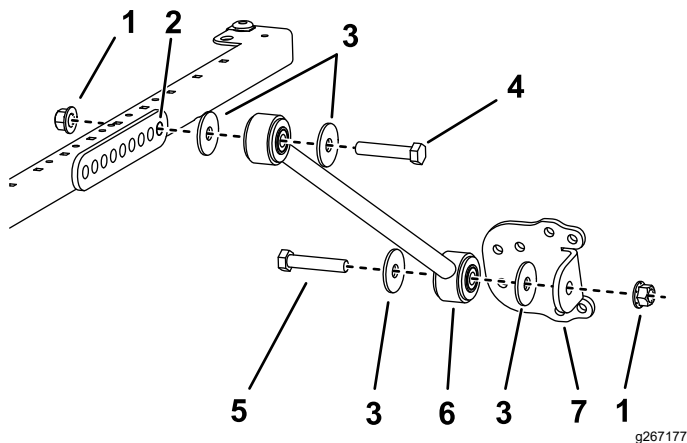

Figure 44
4. On each side of the sunshade frame, loosely mount a brace to the rear hole of the brace mount with a bolt (1/2 x 2-3/4 inches), 2 washers (1/2 inch), and a flange nut (1/2 inch) as shown in Figure 44.
5. Loosely install a brace bracket to each brace with a bolt (1/2 x 2-1/2 inches), 2 washers (1/2 inch), and a flange nut (1/2 inch) as shown in Figure 44.